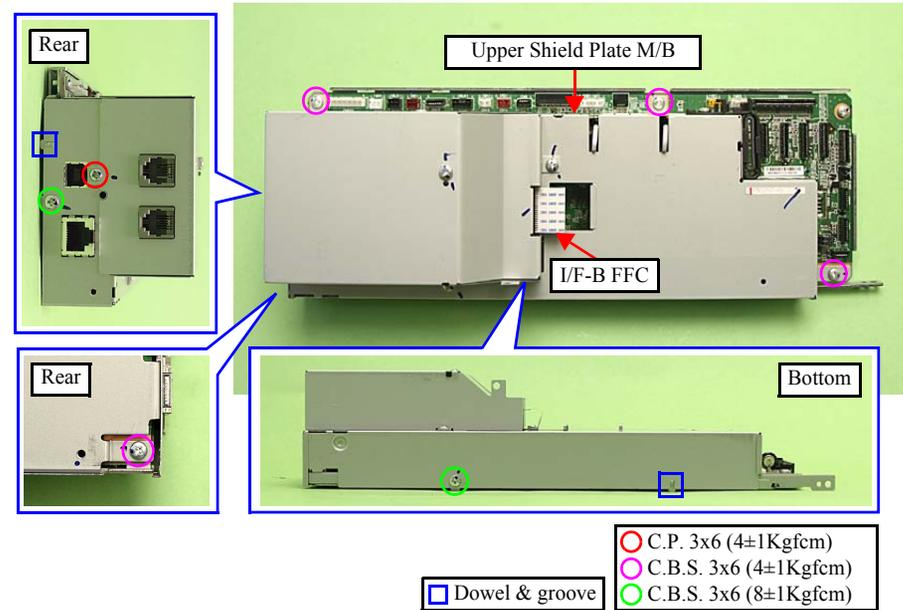

Figure 4-41. Removing the Main Board (1)
1. Disconnect the I/F-B FFC from the FAX board. (Artisan 800/PX800FW/ TX800FW only) (See Fig. 4-41.)
- Align the dowels (x2) of the Lower Shield Plate M/B with the grooves (x2) of the Upper Shield Plate M/B. (See Fig. 4-41.)